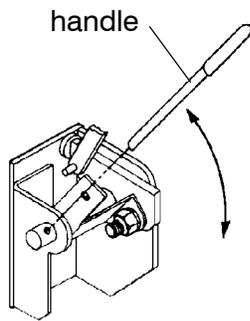

Figure 1-5.
- 260 and 400 amp. E–design*                See Figure 1-5.